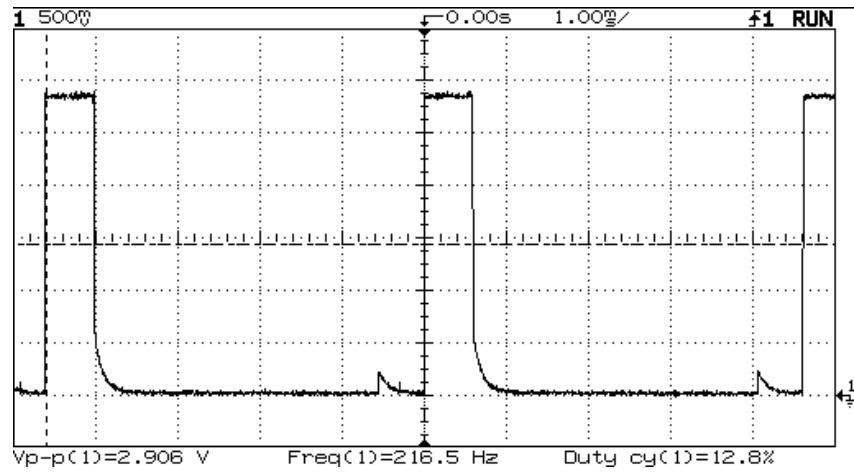

Fig. 4.10 PCN\_PRE\_ON Pg. 1-4K TP103
8. **GSM\_PRE\_ON** (A 2.85V supply which feeds parts of the GSM TRX path). See figure 4.10.